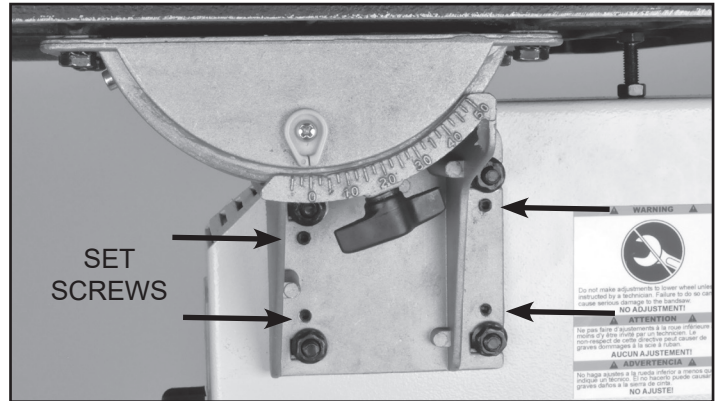

FIGURE 14
1. On the lower Trunnion Support (#115), *slightly* loosen the four Hex Flange Nuts (#116) whose bolts (#112) hold the support to the bandsaw frame. FIG. 14.
3. Using the 2.5mm hex wrench, turn the rear trunnion micro adjusting hex screws (#116A) to adjust the table position. FIG. 14. Adjust the micro screws in pairs, top 2 or bottom 2, to adjust the table angle to the blade.